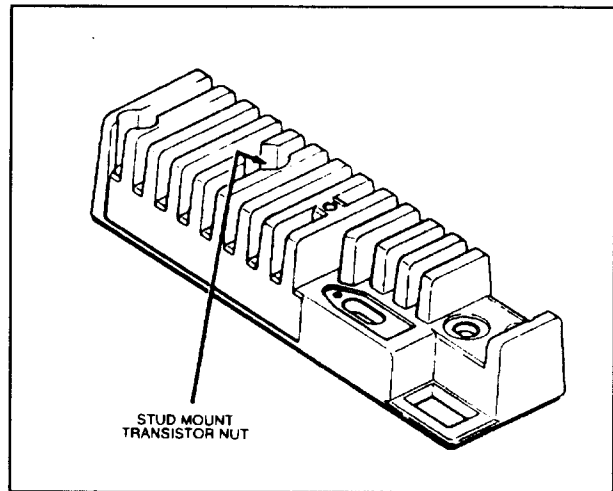

Figure 9.
(3) UHF ONLY - Remove the stud mount transistor mounting nut from the back of the heatsink (figure 9).